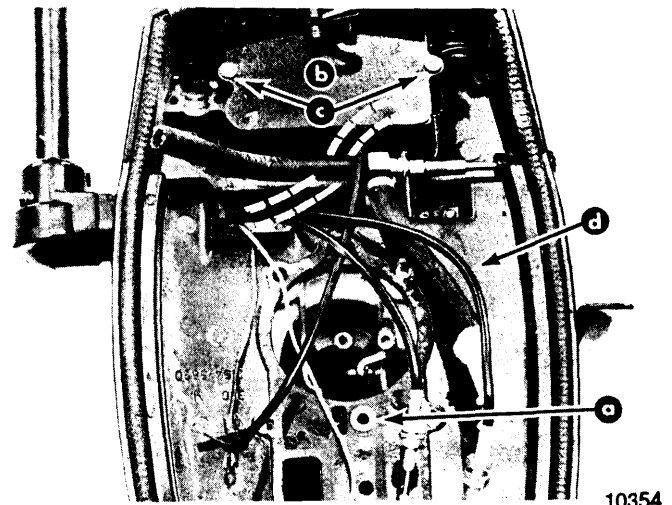

Figure 7. Powerhead Assembly Removed
16. Remove and retain white plastic water tube seal (Figure 7) to prevent dropping it into lower unit.
1. Remove bottom cowl cover (2 screws). (Figure 7)
6. Reinstall white plastic water tube seal (Figure 7) in position on top of water tube.
10. Reinstall bottom cowl cover (2 screws). (Figure 7)
IMPORTANT: No. 2 cable (Figures 3 and 7) must be routed under fuel line as indicated by dotted lines in Figure 7.